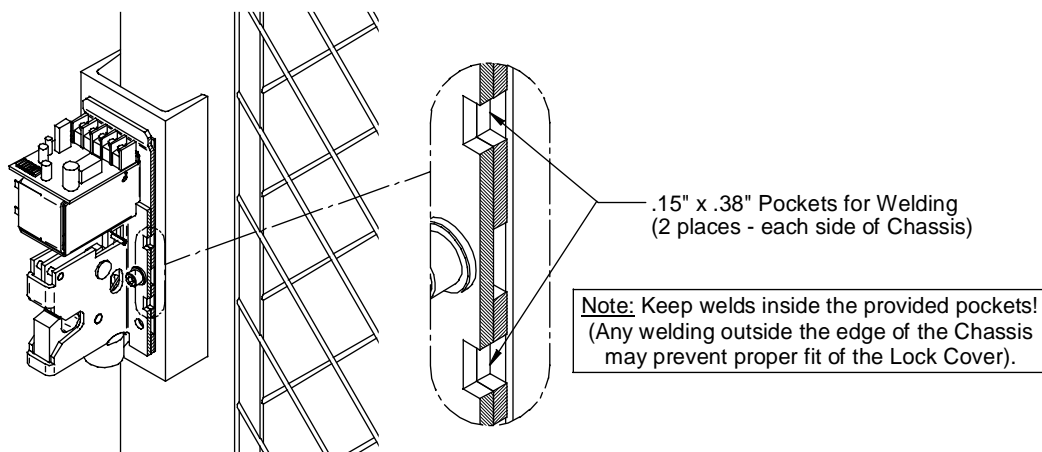

Figure 7 – Welding Pockets
The mounting configurations primarily addressed in this manual will be for swinging and sliding gate applications. Fastening hardware required for mounting the lock and strike in either mount configuration has been included with the unit. For added security (in conjunction with the fasteners, the lock and strike may be welded in place (see Figure 7, page 8), but care must be taken when welding to prevent damage to the electronic components of the lock. Because of the diversity in gate manufacturing/construction methods and installation configurations, mounting surfaces for the lock and strike assembly will be left to the installer. Optimum mounting platforms may be achieved by welding adequate size metal plates, channels or tubing to the fence frame and the gate. Formed angle and brackets along with appropriately sized fasteners may also be utilized to mechanically secure mounting platforms for the lock and strike. For maximum security when using the provided blind nut inserts, it is best to mount the lock to steel tubing or channel in order to conceal and protect the backside of the nut from exposure to damage or vandalism.
- a. Drill four (4) 25/64" [10mm] diameter holes through the mounting surface at marks for chassis mounting holes.
5. Install the lock mounting chassis (**Item #1**) into place using two (2) 1/4-20 x 1" long socket head cap screws (**Item #5**) with two (2) 1/4" flat washers (**Item #4**) **through the upper two holes of the chassis only**. **Note:** It is recommended that thread locking compound (**Item #7**) be applied to these two (2) cap screw threads at this point. Fully tighten the screws using a 3/16" hex wrench.
Note: For maximum security, the lock chassis may be welded into place in addition to the fastener mounting. The lock chassis features four (4) "pockets" (two per side) that may be used for welding purposes (See **Figure 7**). **Welding must be confined to these pockets and flush with the edges of the chassis for proper fit of the lock cover.** (See *Section 5.1 Pre-Installation Survey* for additional welding precautions).